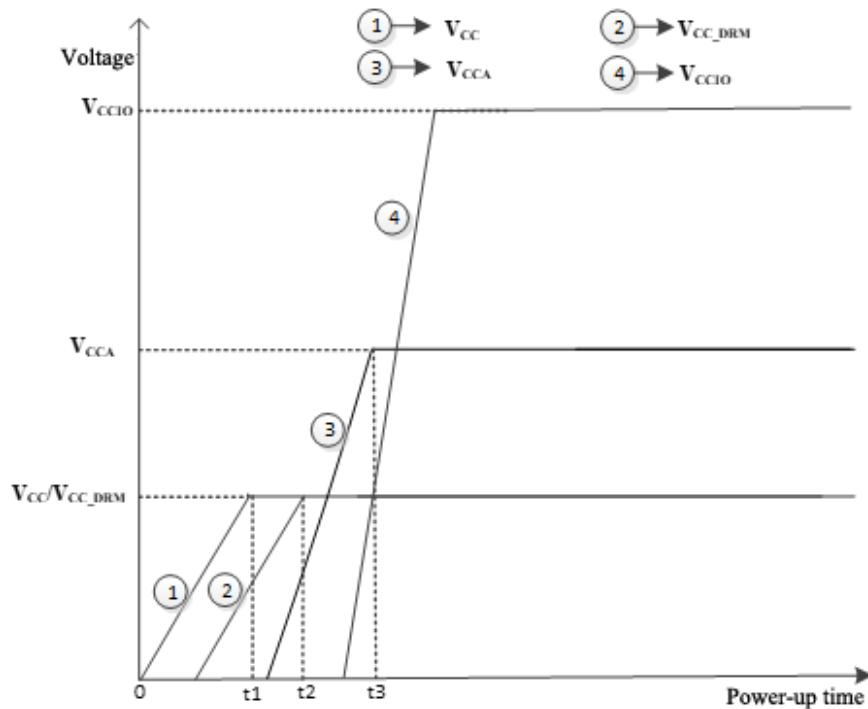

Figure 2-1 Power-up Timing Diagram
- Recommended power-up sequence: VCC, VCC_DRM, VCCA, VCCIO, as shown in Figure 2-1. Before reaching the typical voltage values, the following must be met: $VCC \geq VCC_DRM \geq VCCA \geq VCCIO$, and at this time, the power-up current is minimum.